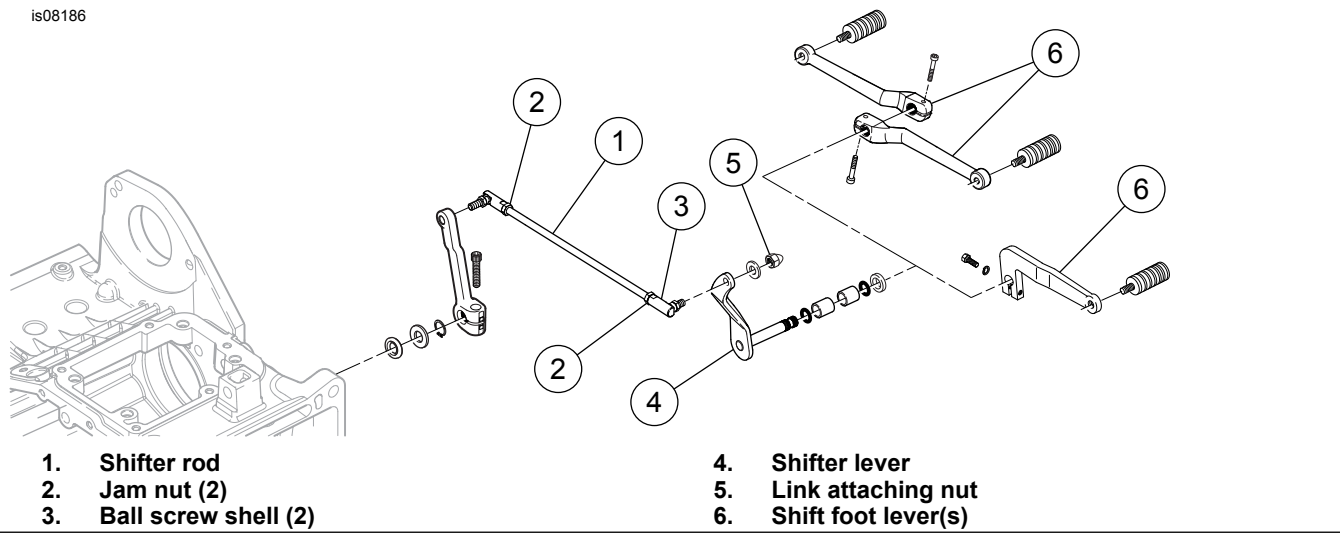
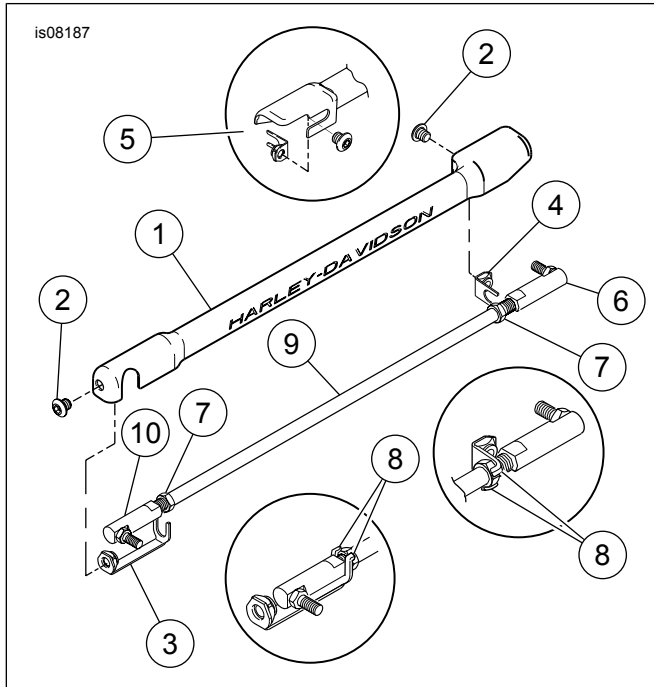

Figure 1. Stock Shifter Linkage
Figure 2. Service Parts
1. See Figure 1. Loosen the shifter-rod jam nuts (2).
2. See Figure 2. Fasten the rear mounting bracket (4) on the engine side of the shifter rod between the ball screw shell at the rear end of the rod and the jam nut as shown. Tighten the jam nut on the shifter rod to 80-120 **in-lbs** (9.0-13.6 Nm).
3. Fasten the front mounting bracket (3) on the bottom side of the shifter rod between the ball screw shell at the front end of the rod and the jam nut as shown. Tighten the jam nut to 80-120 **in-lbs** (9.0-13.6 Nm).
5. See Figure 1 and the Service Manual. Adjust the length of the linkage, remove the link attaching nut (5), lock washer and flat washer at the forward ball screw.
6. Loosen the jam nut (2) at the front end of the shifter rod, and remove the mounting bracket installed in Step 3. Rotate the forward ball screw shell to achieve the proper length to allow mounting of the cover.
8. See Figure 2. Bend the tabs (8) of each mounting bracket toward the jam nut (7).
9. Fasten the cover (1) to the mounting brackets using the two short screws (2) from the kit. Fasten the rear of the cover first (the rear of the cover is marked "rear" on the inside). It may be necessary to move the shifter rod into the "downshift" position to fasten the rear screw. Tighten the screws to 8-10 **ft-lbs** (10.8-13.6 Nm).
10. If the linkage needed adjustment (Steps 5 through 7), the position of the shift foot levers (6) may have changed. To return the levers to their original position, loosen the socket head screws holding the levers to the shaft. Pull the levers from the shaft, rotate them to the desired angle and slide them back onto the shaft. Tighten the screws to 18-22 **ft-lbs** (24.4-29.8 Nm).